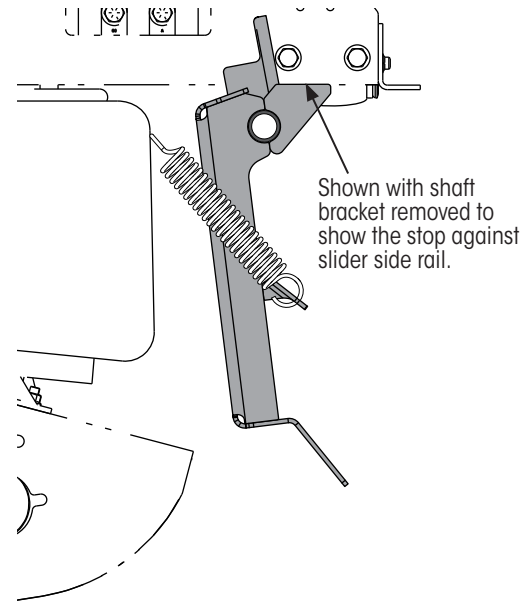
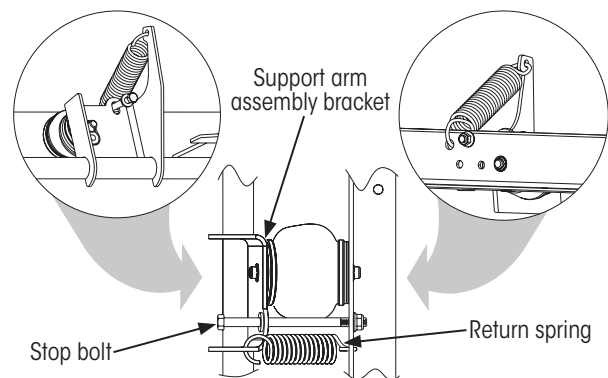

Figure 3: SURELOK disengaged (parking brake released)
Figure 4: SURELOK with stop bolt, prior to December 2015
2. **Release** the trailer parking brake. SURELOK will automatically disengage (Figure 3) when the trailer parking brakes are released.
3. **Visually check** to ensure both SURELOK arms are in the disengaged position (e.g., the SURELOK arms must be retracted from and clear of the rear suspension beams as shown in Figure 3).
When disengaged, SURELOK includes a stop to control SURELOK movement. See Figure 3 (after November 2015) and Figure 4 (stop bolt, prior to December 2015).